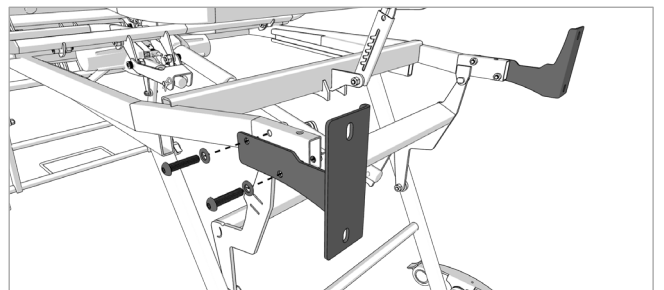
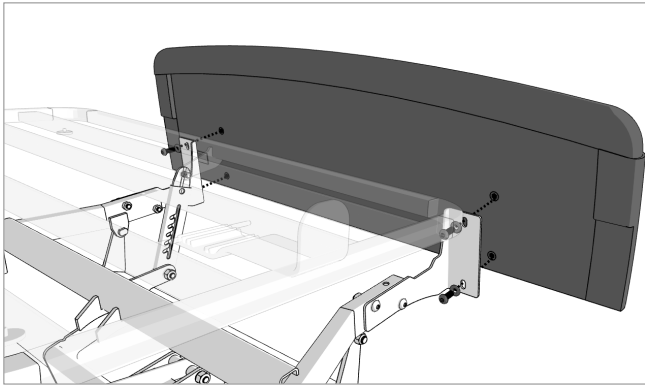

Figure 8.9
Figure 8.10 – Footboard Shown is Scandi, fitment may vary slightly depending on specification.
- Repeat steps 5 to 7 to fit the footboard as shown in Figure 8.9 and Figure 8.10